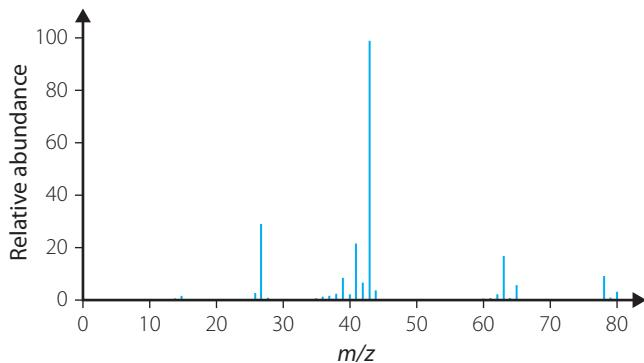

FIGURE 15.32 Mass spectrum of an unknown compound
- b** Examine the mass spectrum (Figure 15.32) of the compound. What is the molecular formula for the compound?